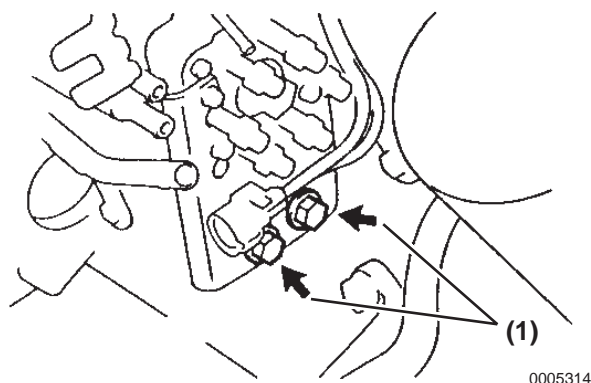

Figure 6-51
7. Remove two fuel injection pump stay set bolts **(Figure 6-51, (1))**.